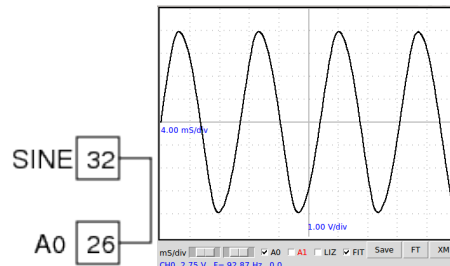

Figure 2.5: AC voltage waveform from SINE
- The waveform is shown in the figure 2.5. Enable the 'FIT' option to calculate the amplitude and frequency by fitting the data with the equation $V = V_0 \sin(2\pi ft + \theta)$, where V_0 is the amplitude and f is the frequency.